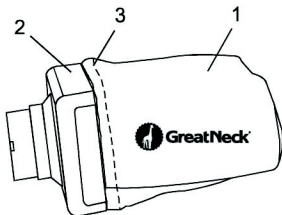

Fig. 2
2. Remove the dust bag (1) from the dust bag support (2) by opening the elasticized end of the dust bag (3) and sliding it off the dust bag support (see Fig. 2).